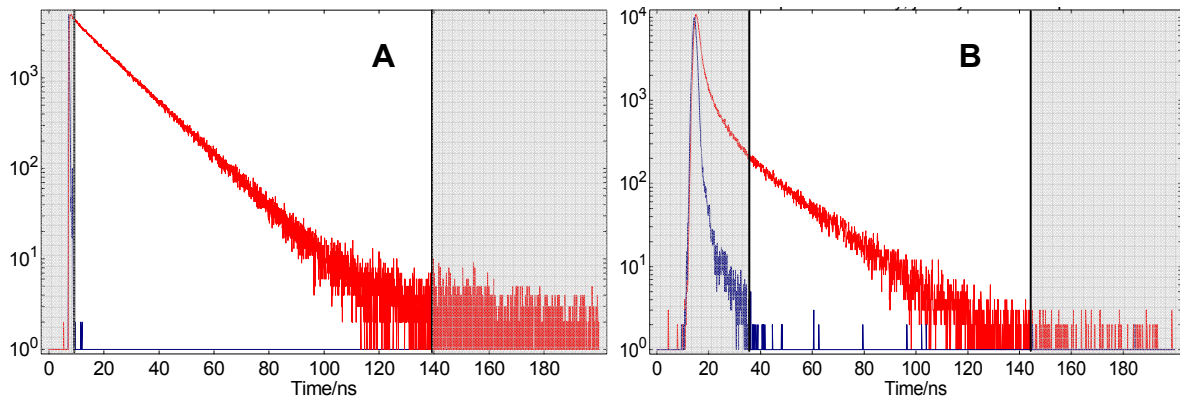
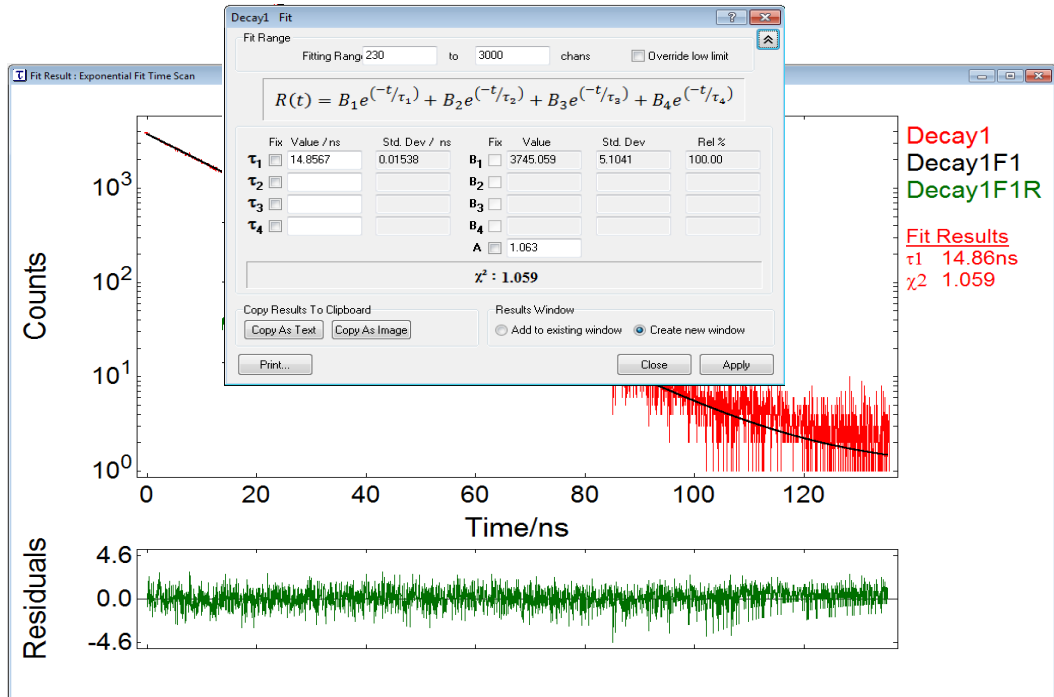
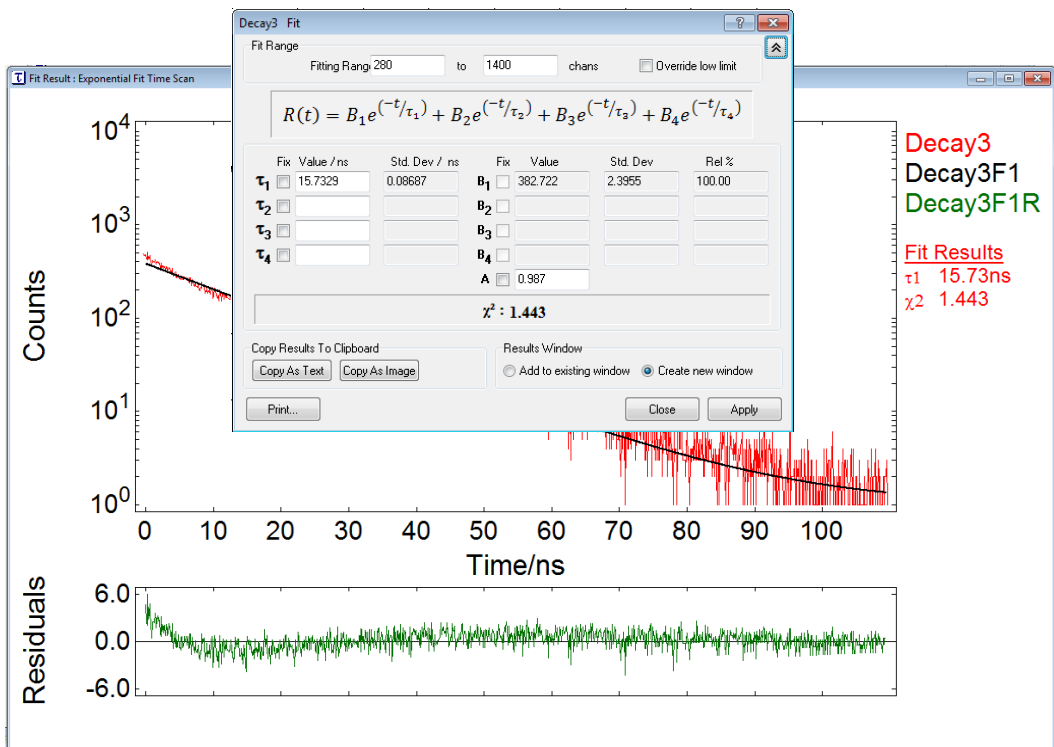

Figure 7-3: Tail fit regions, two different examples
Figure 7-5: satisfactory tail fit
Figure 7-6: unsatisfactory fit
Figure 7-3 below shows – on the example of two different measurements “A” and “B” – the selection of a suitable tail fit region (region with white background). The tail fit region excludes the time period for which the IRF is still present. For obtaining proper fit results, the far end of the tail that only contains detector background and noise, should also be excluded.
2. Inspect your sample decay measurement and decide whether a good model function to fit to would be a single exponential decay, or a function that contains more than a single exponential term. Decay processes that are likely to be of single exponential nature are recognised by a sloping straight line in a semi-logarithmic plot (see tail fit region of decay “A” in Figure 7-3). Decays that deviate from a straight line (see tail fit region of decay “B” Figure 7-3) will not be satisfactorily fitted with a single exponential term.
Figure 7-5 shows a satisfactory single exponential fit result of decay "A" of Figure 7-3. In contrast, Figure 7-6 (showing a tail fit result of decay "B" of Figure 7-3) is an example for an unsatisfactory fit result.
2. Inspect your sample decay measurement and decide whether a good model function to fit to would be a single exponential decay, or a function that contains more than a single exponential term. Decay processes that are likely to be of single exponential nature are recognised by a sloping straight line in a semi-logarithmic plot (see decay “A” in Figure 7-3). Decays that deviate from a straight line (see decay “B” Figure 7-3) will not be satisfactory fitted with a single exponential term.